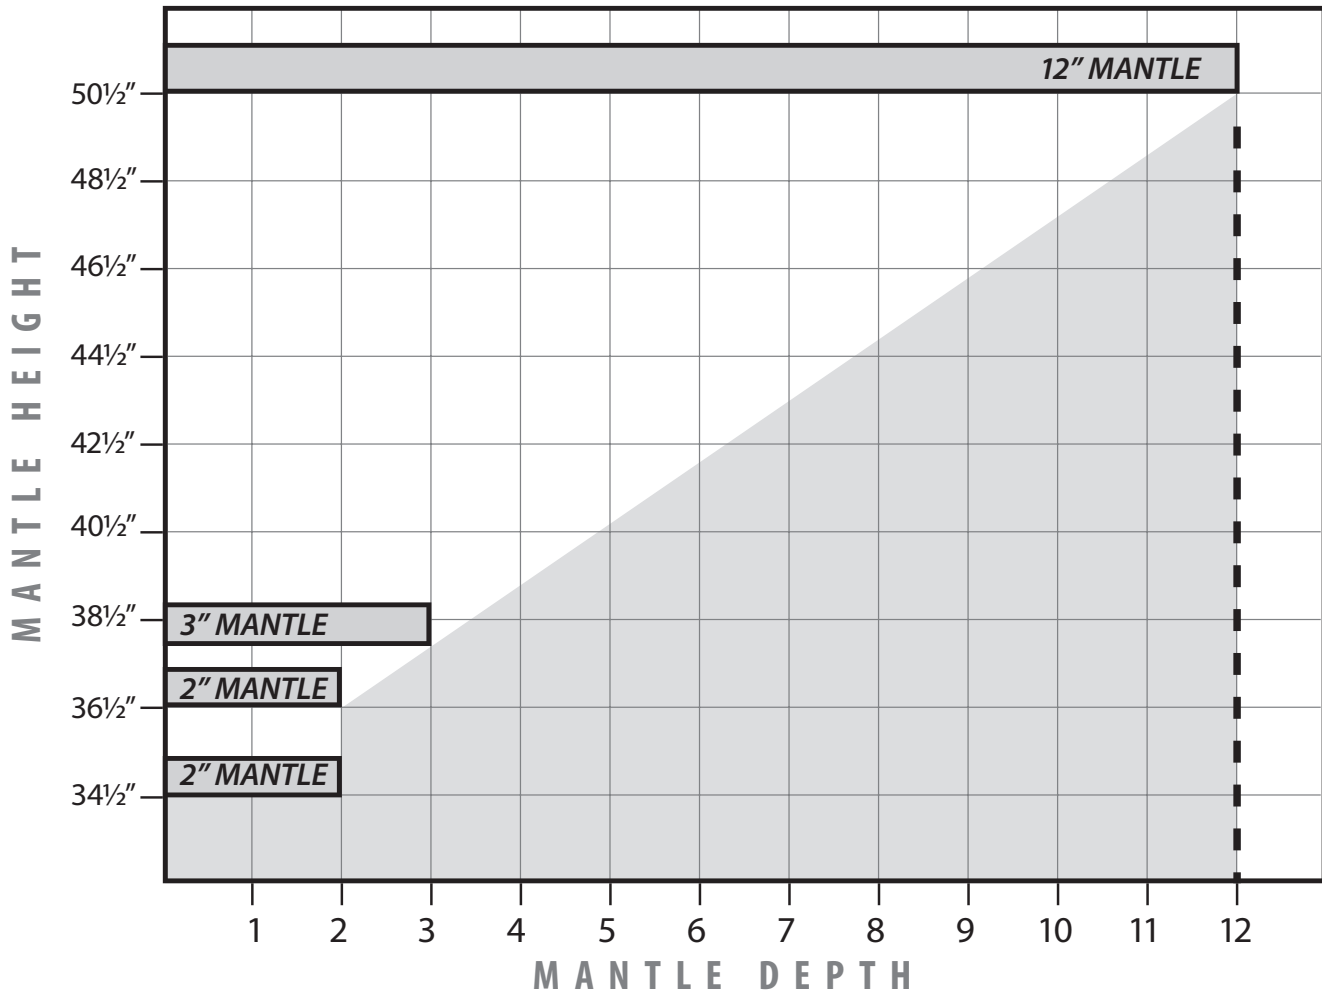

Figure 19. Mantle Clearances
**MANTLE:** It is not necessary to install a mantle, but if one is desired the guidelines as shown in Figure 19. Side mantle clearance should be no less then the distance from the top of the unit to the bottom on the top portion of the mantle.